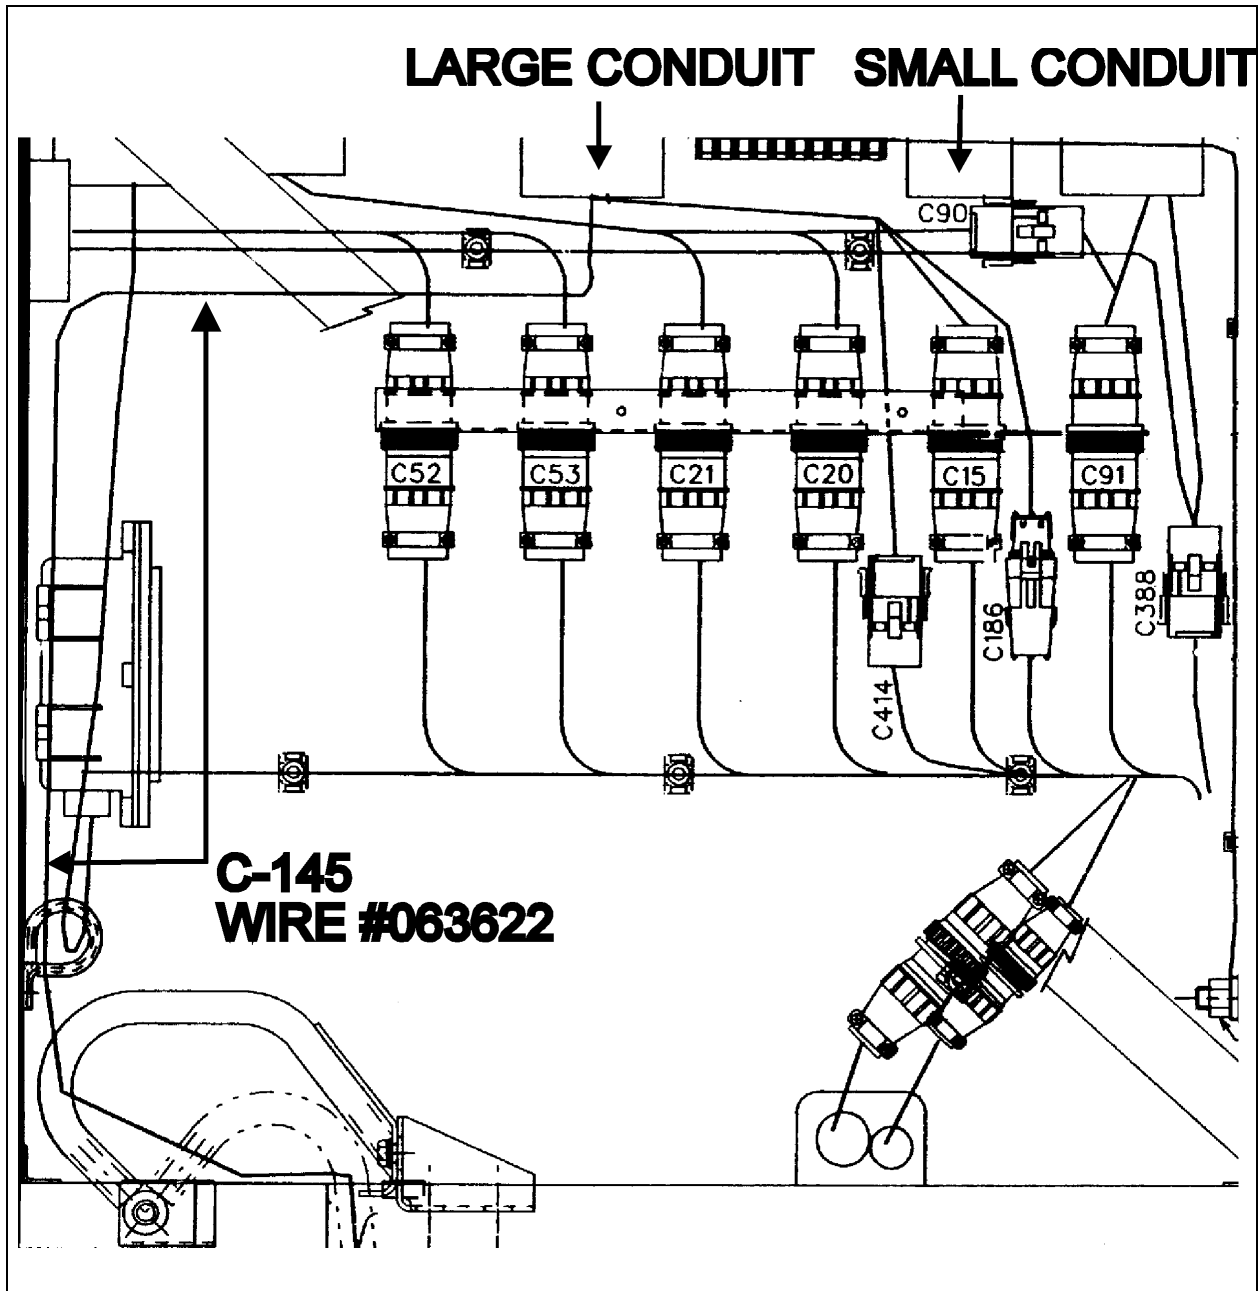

FIGURE 3: TOP VIEW OF REAR ELECTRICAL COMPARTMENT
1. Locate connectors of both electrical conduits in rear electrical compartment (Fig. 3).
2. Disconnect connectors C-154, C-414, C-186, C-145 of the largest electrical conduit (Fig 3).